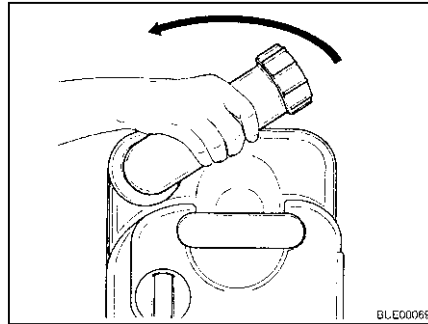

Fig. 175 Turning drainage neck
- Turn the drainage neck upwards (Fig. 175).